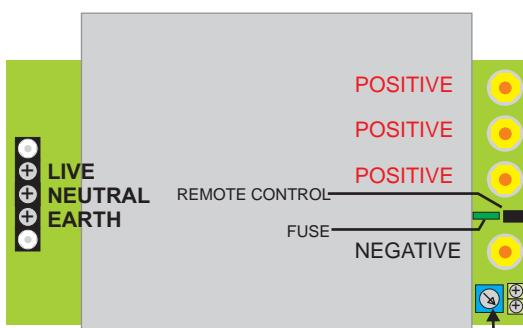

Fig. 1
- Before switching the charger on, it is important to set up the battery type. Please choose a battery type according to Fig.1. Sterling have supplied 7 different settings, and have tried to encompass all battery types and there charge rates, why the American settings differ from the European settings for the same batteries I have no idea, however we supply both, please have that argument with your battery supplier and not Sterling. If in doubt always chose the setting with the lower voltage until such time you can confirm the correct setting. As a rule of thumb, the higher the charge voltage the faster a battery will charge but the more gas may be produced. gassing of sealed batteries is not recommended
- Bevor das Ladegerät in Betrieb genommen werden kann, muss der Batterietyp eingestellt werden (Fig. 1).